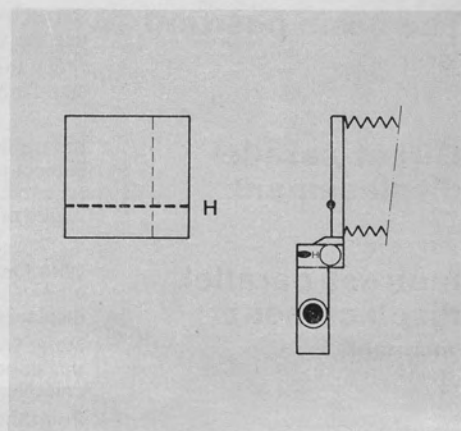

Fig. 74
1. Focus the **first** image point, which you locate **exactly on the horizontal axis H**, by turning focusing knob g (Fig. 74).